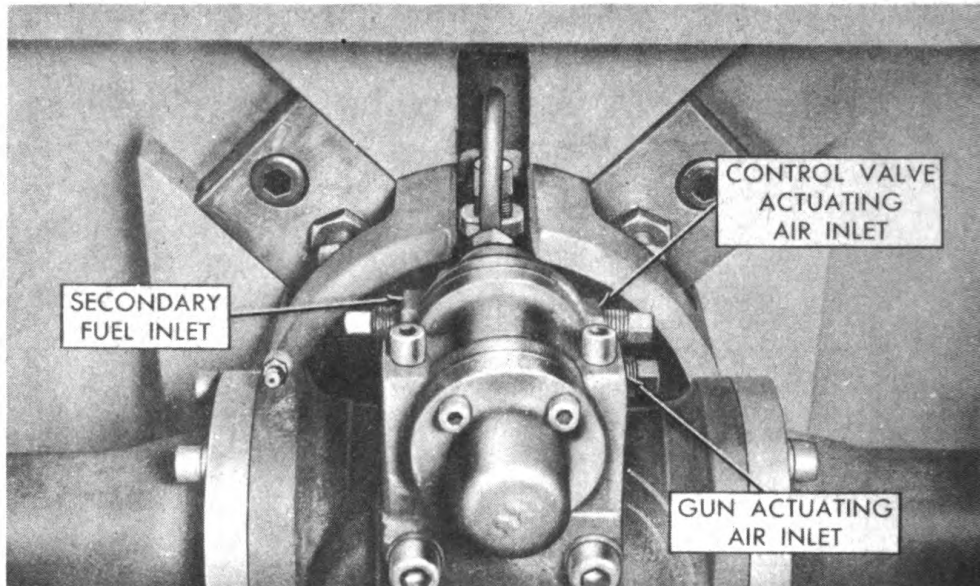

Figure 64—Breech end of dummy 75-mm. rifle tube.
shield, thus forming the forward support for the tube. At the breech end, in the cylindrical wall of the tube, are four rectangular holes 90 degrees apart to accommodate hold-down lugs and locking bolts (fig. 64). The hold-down lugs are bolted to the rotor mount or mounting yoke riding on the trunnion bearings. The locking bolts permit forcing the rifle tube to the rear into the tapered seat of the movable shield. Rear support for the tube is provided by a close fit in the rotor mount (mounting yoke).
f. With a wrench, loosen lock-nuts on the four locking bolts at breech end of dummy rifle tube (fig. 64). Turn locking bolts *clockwise* until free.